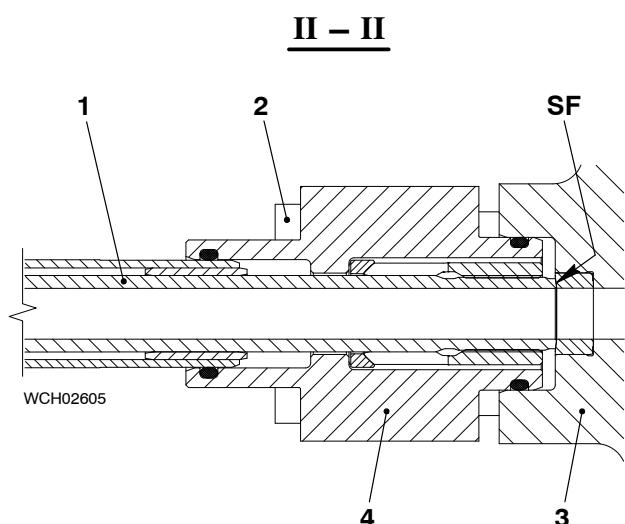

Fig. 4
Before fitting the HP servo oil pipe check whether its claws (9, Fig. 4) are screwed on properly, i.e. the HP servo oil pipe must protrude by 'x' = 5.5 mm compared to the claw.
- 3) Remove the four screws (2, Fig. 4) from the flange (4).
- 4) Carefully move the flange (4) away from the top housing (3).